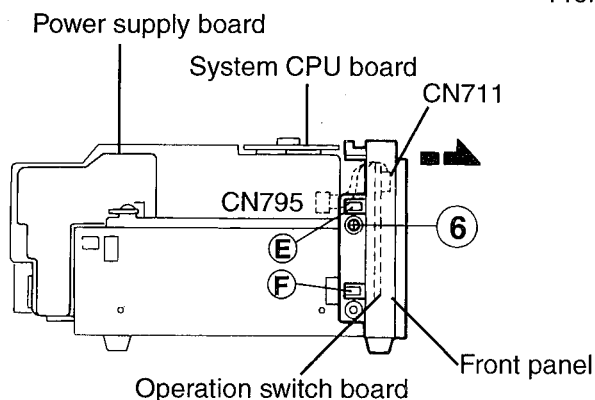

Fig. 7
3. From the both sides of front panel, remove the two screws ⑥ retaining the front panel. (See Figs. 7, 8)
5. After disengaging the four engagements "E,F,G and H" between the front panel toward the front side in the arrow direction. (See Figs. 7, 8)
7. From the connector CN795 on the power supply board, disconnect the card wires outgoing from the connector CN771 on the operation switch board. (See Fig. 7)